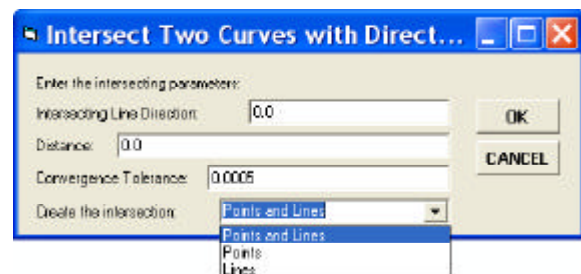

Figure 5
Having specified both courses of which their length are known, the multi-input dialog box of Figure 5 is displayed to introduce the course having a known length and direction.
where, *userDis* is the length of the course entered by the user in the data field to the right of the *Distance* label in Figure 5, and *userTol*, the convergence tolerance, see Figure 5.
- b. If a solution can not be determined a warning message to this effect is displayed. In this case, check the bearing and distance values specified in Figure 5, or alter the convergence tolerance value, increasing the value.